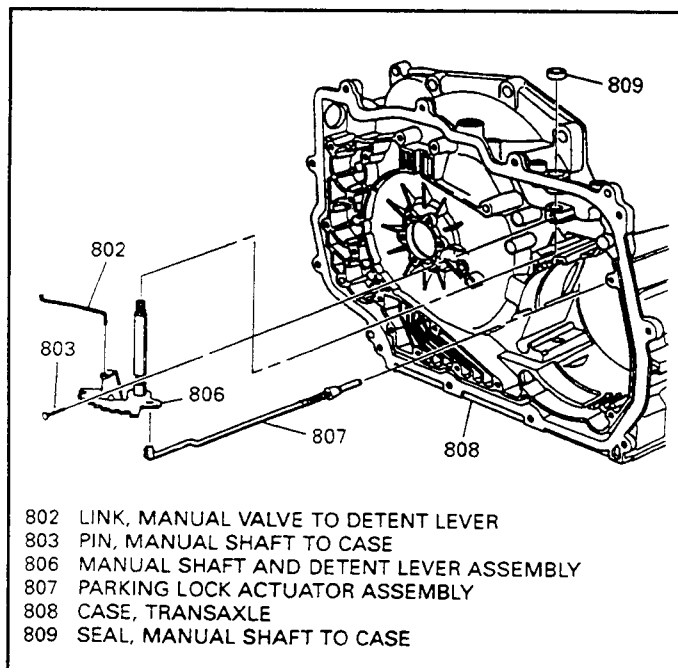

Figure 81
81. Remove the manual shaft to transaxle case retaining pin (Nail), as shown in Figure 81.
82. Remove manual shaft/detent lever assembly (806), by pushing the manual shaft into case, as shown in Figure 81.